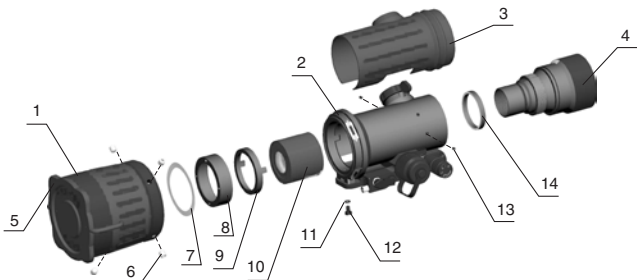

FIGURE 3-6. VARIABLE GAIN TUBE REPLACEMENT
- Loosen four objective fixing screws (Figure 3-6, 6).
- Unscrew the lock ring (Figure 3-6, 2).
- Remove the objective lens (Figure 3-6, 1).
- Unscrew the lock ring (Figure 3-6, 8).
- Draw out the orienting sleeve (Figure 3-6, 9).
(3) Tube installation
- Apply small amount of sealant onto the internal surface of the orienting sleeve (Figure 3-6, 9).
- Place the orienting sleeve onto the front end of the tube. Be sure to engage the lock ring (Figure 3-6, 8) into the tube key.
- Insert the ring (Fig.3-6, 7)
- Apply small amount of thread locker and screw the ring (Figure 3-6., 8). Do not over tighten it.
- Carefully separate the rubber cover (Figure 3-6, 3) from the sight body and remove it.
- Loosen and remove two fixing screws (Figure 3-6, 13).
- Unscrew the output lens assembly (Figure 3-6, 4), remove old adjustment ring (Figure 3-6, 14) and replace by a new one.
- Take off the objective lens cap (Figure 3-6, 5) and place it over the lens housing.
- Unscrew and remove the lock ring (Figure 3-6, 14).
- Fill the gap between the output lens assembly (Figure 3-6, 4) and sight body with sealant.
- Screw the lock ring (Figure 3-6, 14) and tight it firmly.
- Remove the purge screw (Figure 3-6, 12) with the O-ring (Figure 3-6, 11).